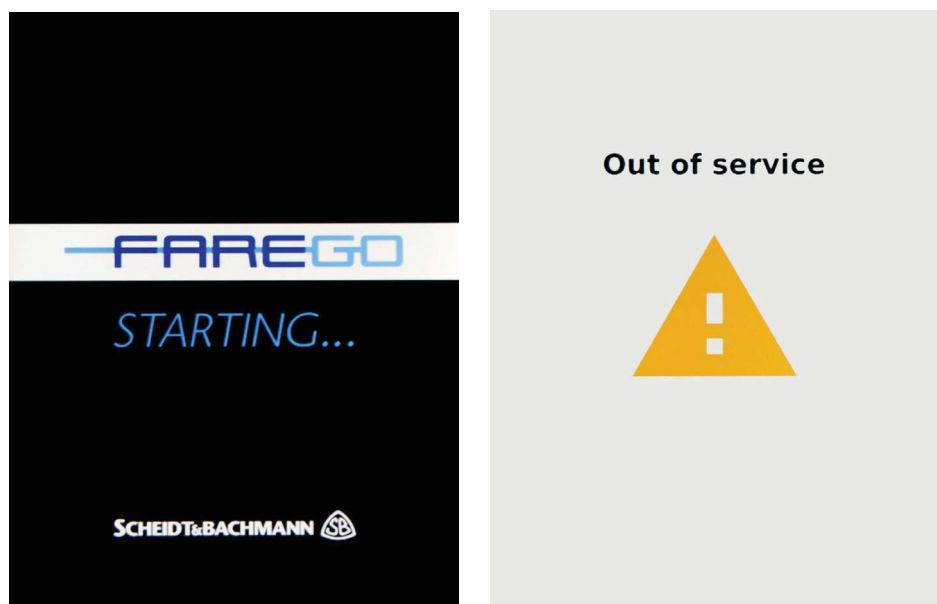

Figure 4-15 Validator Initialization (Workshop) 10
Step 17 Validator boots automatically (see **Figure 4-15**).
Step 18 Validator shows "Out of Service" screen (see **Figure 4-15**).